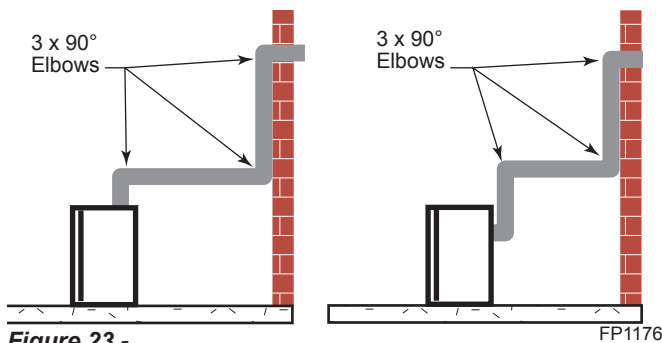
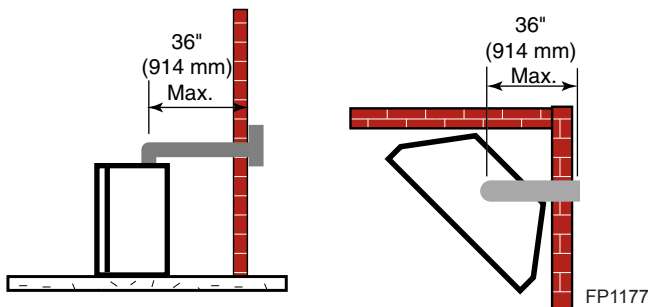

Figure 23 -
Figure 24 -
- The maximum number of 90° elbows per side wall installation is three (3). *Figure 23*
- If a 90° elbow is fitted directly on top of the fireplace flange the maximum horizontal vent run before the termination or a vertical rise is 36" (914 mm). *Figure 24*
- If a 90° elbow is used in the horizontal vent run (level height maintained) the horizontal vent length is reduced by 36" (914 mm). *Figures 24 & 25*. This does not apply if the 90° elbows are used to increase or redirect a vertical rise. *Figure 23*